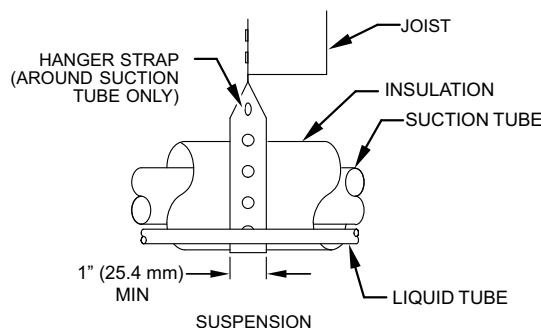

Fig. 1 – Connecting Tubing Installation
6. When passing refrigerant tubes through the wall, seal opening with RTV or other pliable silicon-based caulk. (See Fig. 1.)
8. Do not suspend refrigerant tubing from joists and studs with a rigid wire or strap which comes in direct contact with tubing (see Fig. 1).
10. When necessary, use hanger straps which are 1 in. (25 mm) wide and conform to shape of tubing insulation. (See Fig. 1.)